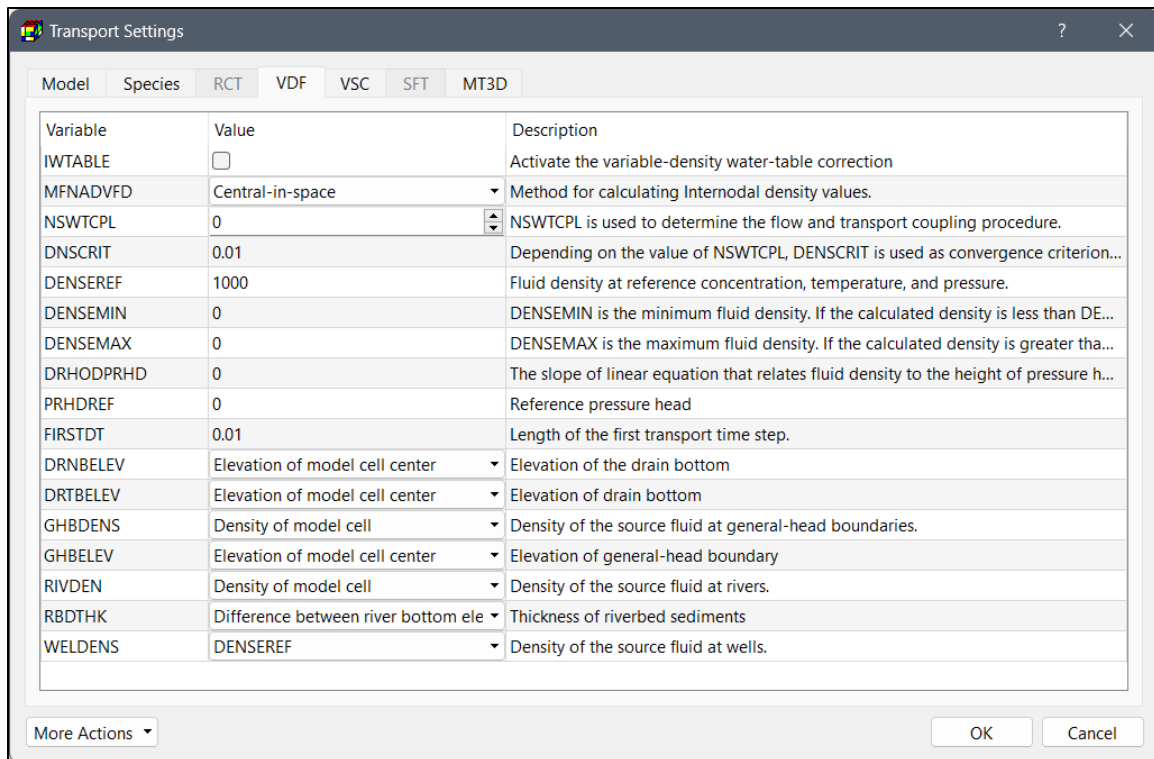

Figure 119. The VDF tab of the Transport Settings dialog box
- **Electron Donor (ED)** is the electron donor in the EA/ED reaction.
- **Electron Acceptor (EA)** is the electron acceptor in the EA/ED reaction.
- **Stoichiometric ratio (F):** F is used in the simulated equation as follows: ED + F × EA → Product.
5. **VDF Tab** (Figure 119) contains options for the Variable-Density Flow Process of SEAWAT.